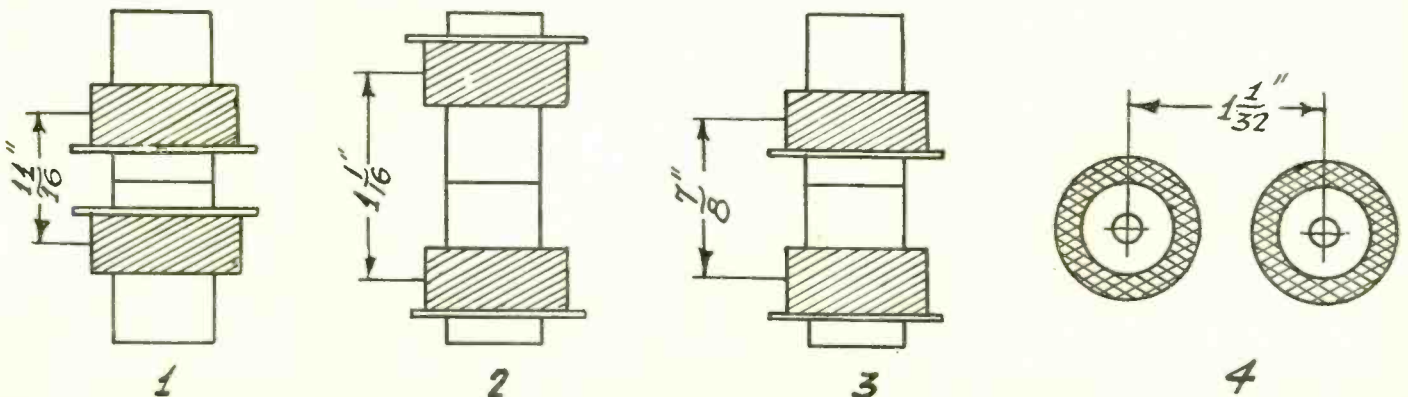
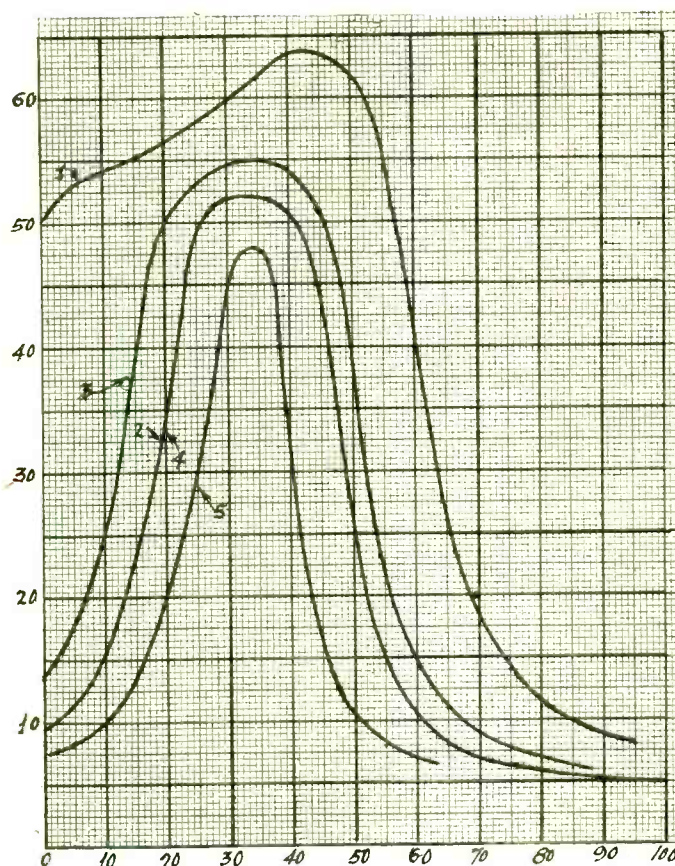

Fig. 2
Fig. 3
T1 is the oscillator transformer, which was made of two coils just like the coils under test and placed side by side as in position (4) of Fig. 2. The secondary alone of this transformer was tuned by means of the adjustable condenser C1.
The grid bias on the oscillator and on the screen grid tube was held at 3 volts. This was used because it gave maximum output under the other conditions of operation. The same voltage was applied on the plate of the oscillator as on the screen of the amplifier and was 67.5 volts. The plate voltage applied on the screen grid tube and on the output tube was 135 volts, and the grid bias on the output tube was 15 volts. Under these conditions the greatest output, as will be seen from the curves in Fig. 3 was slightly over 0.6 milliamperere.
At first the coils under test were placed as at (1), Fig. 2, and the deflection on the meter M observed at every fifth division on the scale of the oscillator dial. The data thus obtained plotted into Curve 1, Fig. 3. Note that the centers of the coils were separated 11/16 inch, the closest they could be placed due to the extensions of the wooden cores.
When two tuned circuits are too closely coupled there are two points at which the output voltage is maximum. This is not well defined in the upper curve in Fig. 3, for one of the peaks is much lower than the other and the two almost merge. However, there is an indication of the second peak at 10 on the oscillator dial, where it prevents the rapid fall of the combined curve.
The second curve in Fig. 3, lowest but one, was obtained when the coils were placed as in (2), Fig. 2. The coils were placed end to end with the longer core projections toward each other. This made the distance between center and center one and 1/16 inches. This yielded excellent selectivity, the curve falling nearly as much and as rapidly on the upper frequency side as on the lower. There is no trace of the double maximum and we may assume that the coupling is less than the critical, which is the coupling at which the double peak just disappears.
Next the two coils were placed as in (3), Fig. 2, in which the center to center distance between the coils is 7/8 inch. The observations taken on this coupling yielded curve No. 3 in Fig. 3. The selectivity is considerably better than that for the first position but not quite as good as that for the second position. The maximum deflection occurs at 35 on the oscillator dial and it is 0.55 milliamperes, just 0.03 milliamperes more than the deflection at maximum for the lower curve.
In the first three positions of the coils they are concentric, or they are placed end-to-end with their centers on the same line. But the coils may also be coupled by placing them side-by-side with their center lines parallel. This placement is represented by Position 4 in Fig. 2. The distance between the two center lines is 1 1/32 inch, which was the closest they could be placed because of bakelite washers used for mounting the terminals of the coils. The resonance curve taken with this coupling coincided almost exactly with that for Position 2. They
Resonance curves obtained with the tester in Fig. 1 when the coils were placed in the positions indicated in Fig. 2. The abscissas are dial settings of a 100 mmfd. condenser in the oscillator and the ordinates the deflections in arbitrary units.